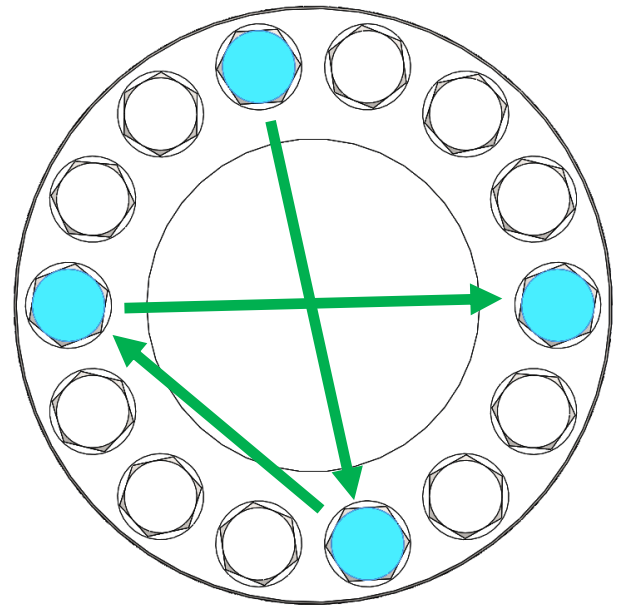

Figure 2 – Crosswise pattern
- Screw the 4 jackbolts crosswise, as shown in **Figure 2 – Crosswise pattern** by hand or using a small wrench to centre the main thread and remove the existing play.